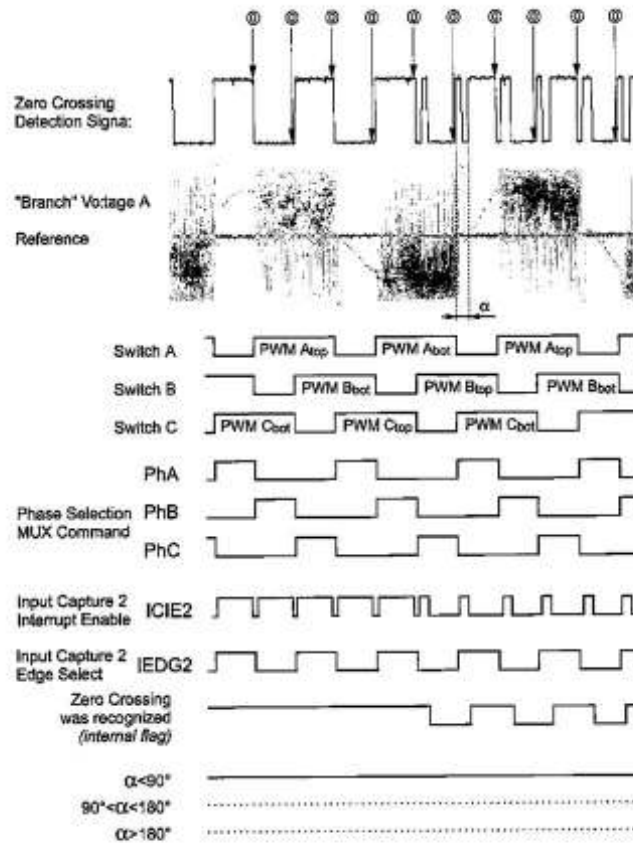
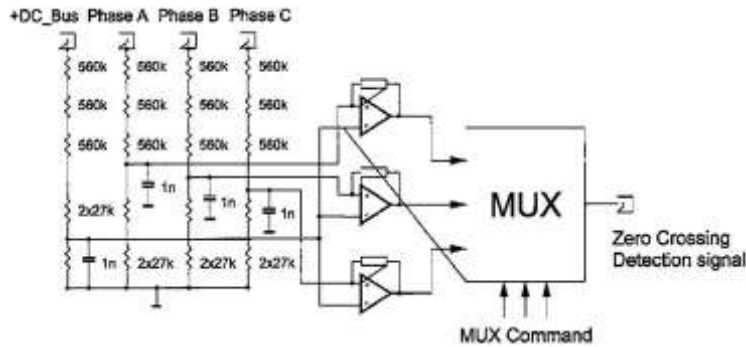

Figure 5-3. Control signals
Figure 6-1. Back-EMF Sensing Circuit Diagram
the commutation, disabled before the successive commutation (OC ISR) or disabled when the edge of the Zero Crossing signal is detected by the IC function (see Figure 5-3.). If a zero crossing edge is detected, then the time interval from the commutation is calculated and condition the $90^\circ < \alpha < 180^\circ$ is evaluated. If this condition is met six times and the current peak is within the limit then the program flow continues. The following subroutines are called: Speed Setting & DC-Bus voltage sensing, Commutation.
This routine performs the Running stage. Speed Setting & DC-Bus voltage sensing and Commutation subroutines are called. The zero crossing feedback is handled and the angle α is evaluated. If no feedback is captured between commutations, then the zero crossing comparator feedback (TCAP2 pin) is sampled directly, just before the commutation takes place (see Figure 5-3., ⑩ samples).
zero crossing signals (see Figure 6-1.). The values obtained from the tables are stored into internal temporary variables in order to be ready when commutation is performed. The polarity edge sensitivity (IEDG2) of the Timer Input Capture 2 Function is toggled (see Figure 5-3.) in order to detect the rising or falling edge of the zero crossing signal. The edge polarity corresponds to the rotor position and the actual commutation stage.
The IC Interrupt (ICIE2) is disabled here to preserve the Back-EMF detection from the disturbances produced during the commutation (see Figure 5-3.). It is enabled again after approximately 50 μ s.